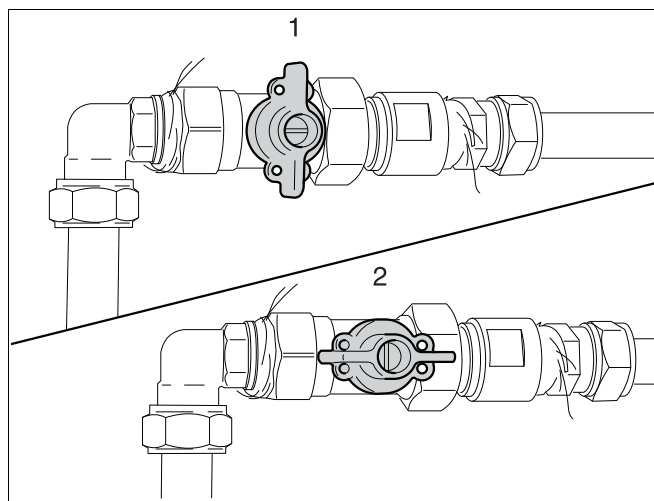

fig. 85 Gas shut-off valve closed (1), gas shut-off valve open (2)
- Close the gas shut-off valve(see fig. 85, pos. 1).